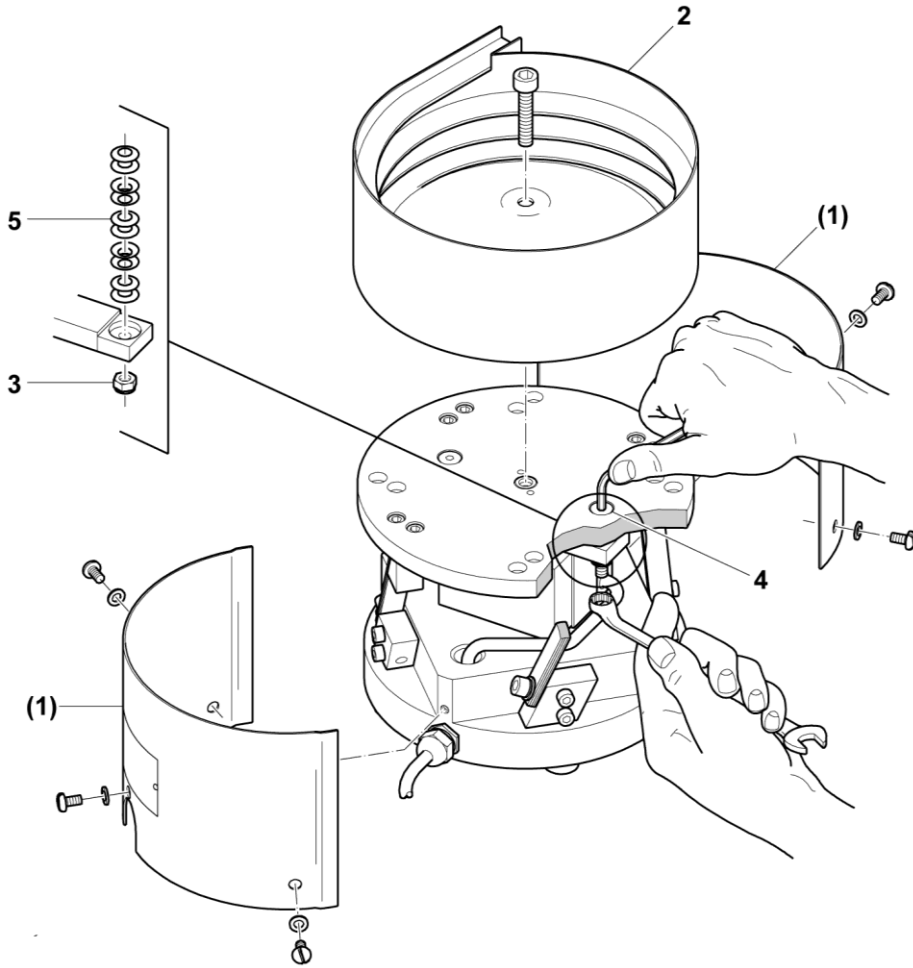

Figure 19
1. remove the casing (1) (see Figure 19)
2. remove the bowl (2) (see Figure 19).
3. Place a ring spanner (size 8) on the Hex stop nut (3) and use an Allen key (size 3) to turn the countersunk screw (4) in the desired direction against the disc springs (5) (see Figure 19).